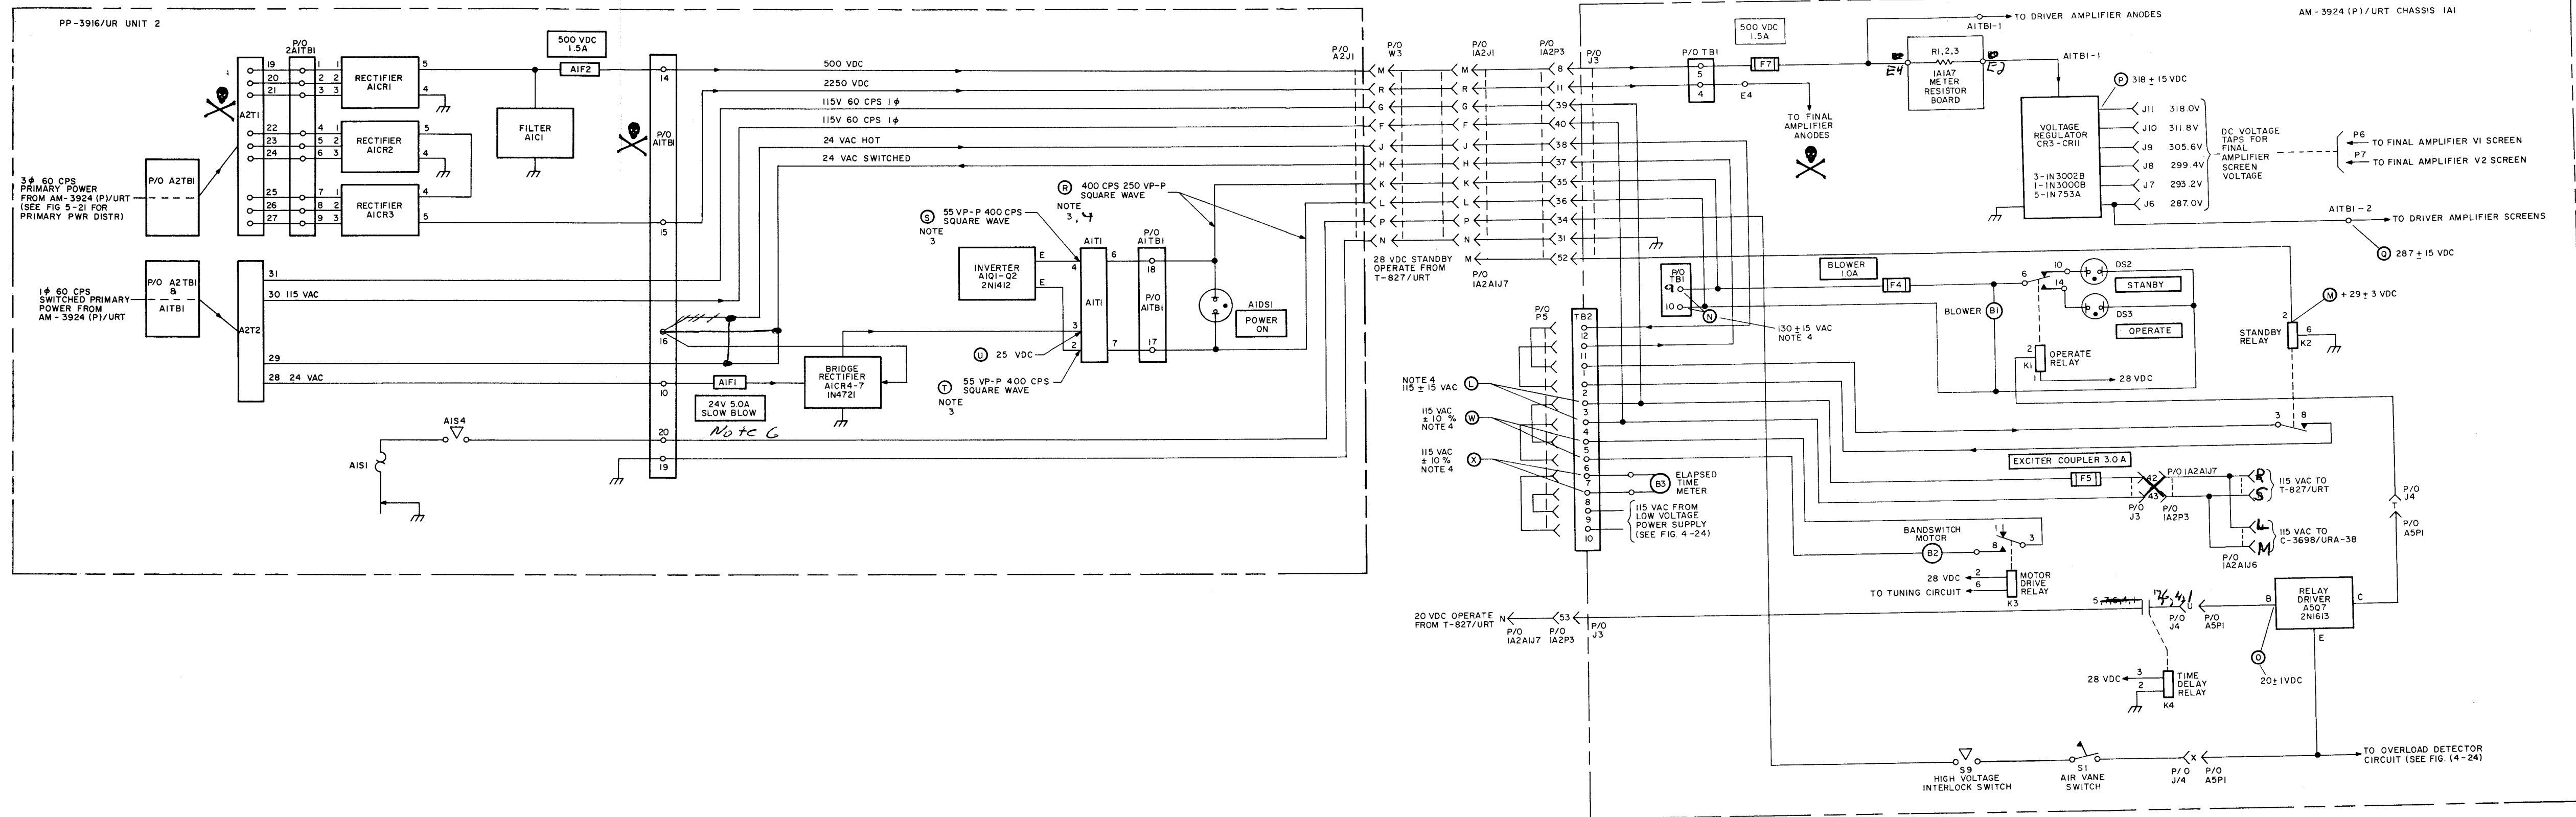

Figure 4-25. 60 CPS High Voltage Distribution, Servicing Block Diagram
- c. 60 CPS High Voltage Distribution, Servicing Block Diagram, Figure 4-25.
- (1) Multimeter AN/PSM-4